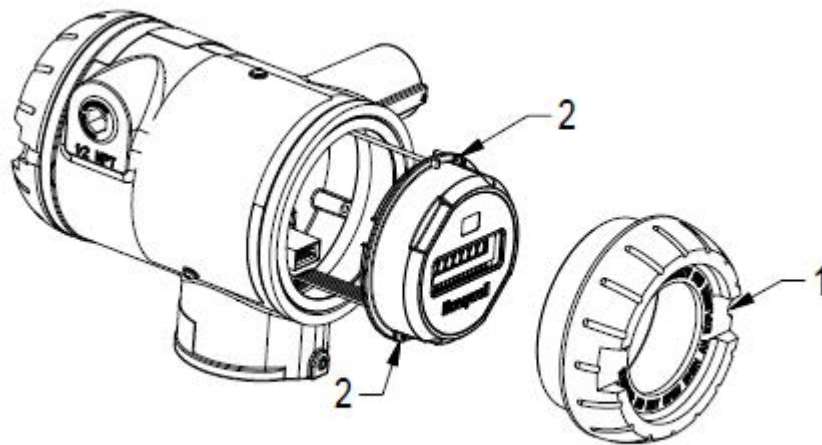

Figure 3-15: Display rotation
2	Loosen the M3 locking set screw on the display end-cap. See item 1 in Figure 3-15 . Unscrew and remove the end cap.
3	Loosen the two captive screws on the display/sensor module. See items 2 in Figure 3-15 .